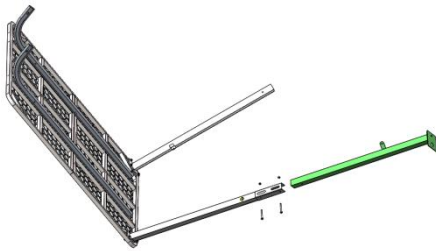

Figure 5
Step 5: Assemble the lower leg (TS305.28) and the attachment bracket brace (TS305.08) to the right upper leg (TS305.21) by using two 1/4"-20×2-1/4" bolts (48271B) and two 1/4" lock nuts(48752B). Leave these hand tight for now (**Figure 5**).